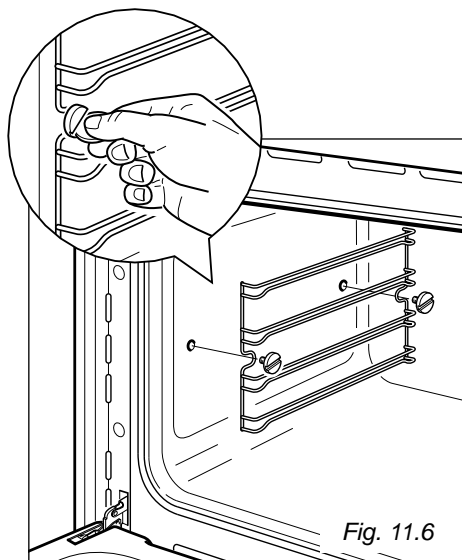

Fig. 11.6
- Assemble the wire racks to the oven walls using the 2 screws (Fig. 11.6).